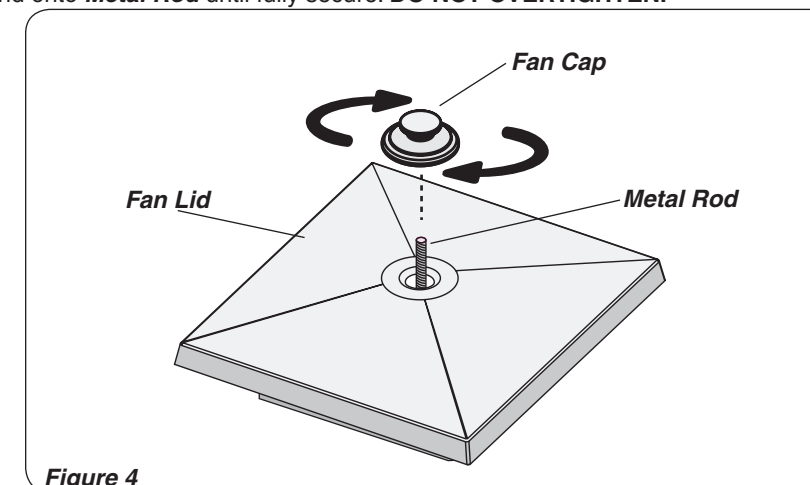

Figure 4
5. Set **Fan Cap** onto the **Metal Rod** in the center of the **Fan Lid**. (Figure 4)